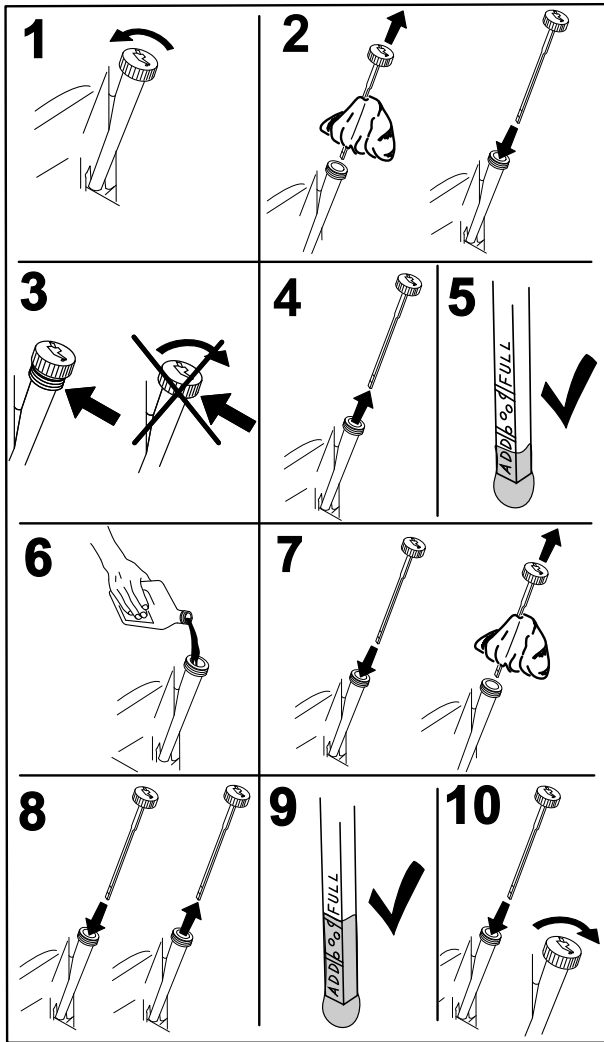

Figure 44
- Stop the engine, remove the key, and wait for all moving parts to stop before leaving the operating position (Figure 44).